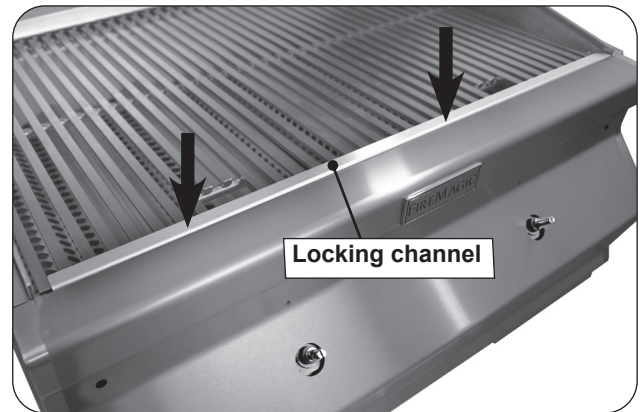

Fig. 31-2 Install cooking grid with locking channel
2. With the channel attached to the control panel, carefully reinstall the control panel back onto the grill. Ensure the locking channel is laying flat on the cooking grids. See Fig. 31-2.